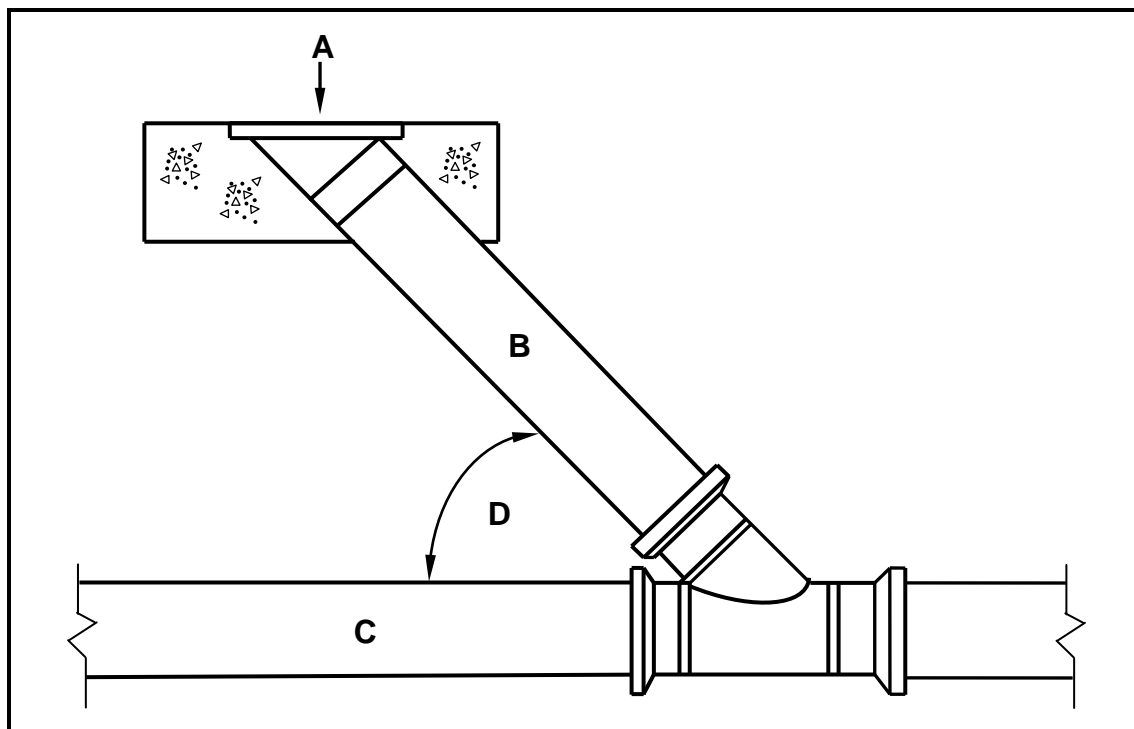

FIGURE 3.5
- 3.5 FIGURE 3.5 below shows part of a sewerage system. Analyse the illustration and answer the questions that follow.